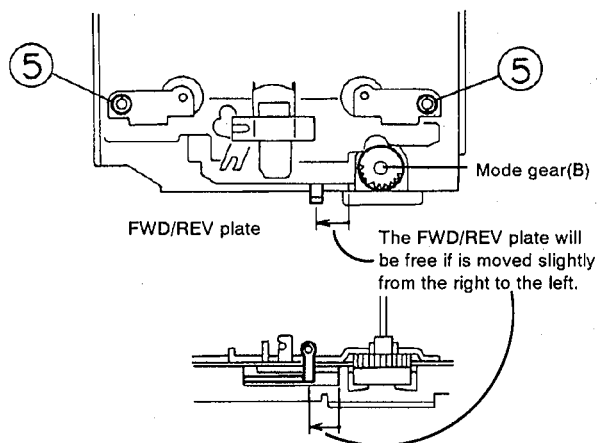

Fig. 4-14
■ Pinch roller ass'y (See Figs. 4-14 and 4-15)
- 1) Remove two C washers ⑤ securing the pinch roller ass'y (do this for both the FF and REV modes).